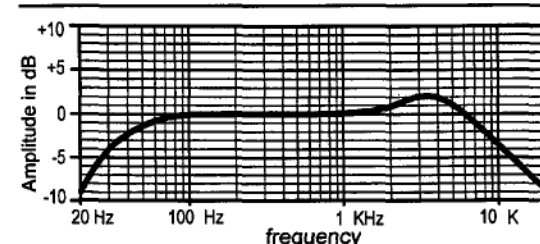

FIGURE 2-4: Frequency response graph.
**Frequency response** is the way an audio component's output relates to its input at different frequencies. A picture is worth a thousand words (Fig. 2-4).